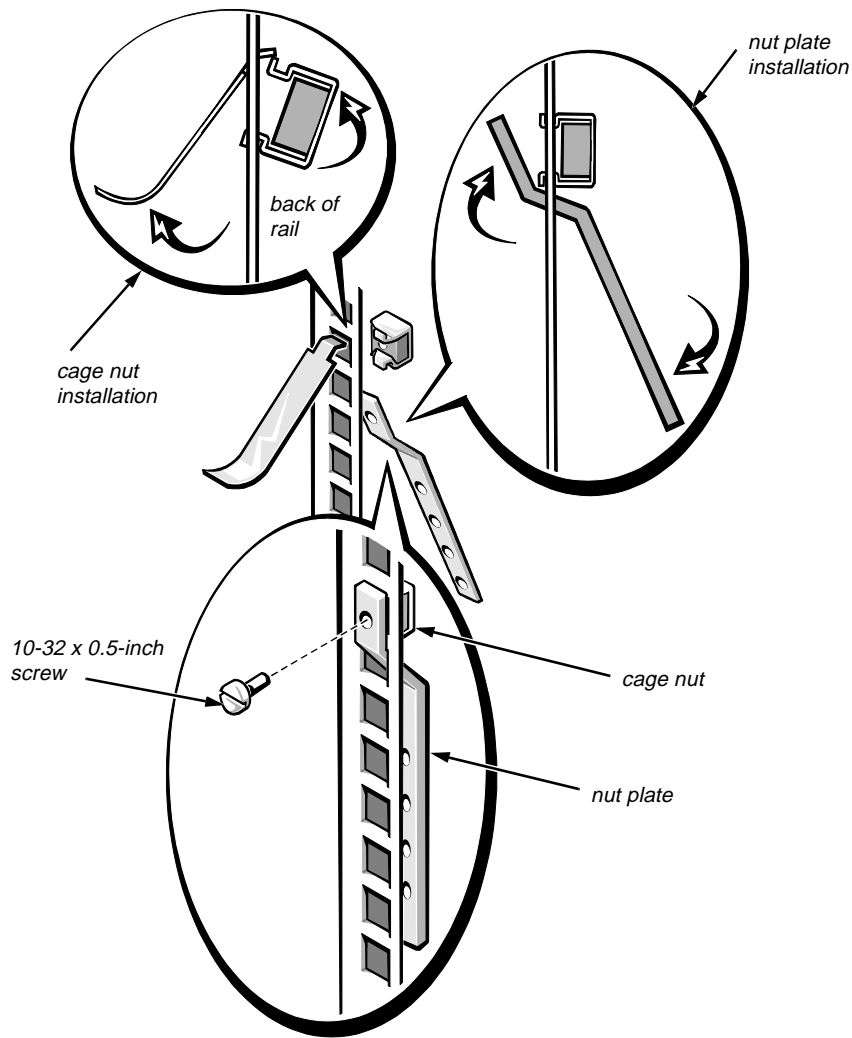

Figure 2-6. Installing the Cage Nuts and Nut Plates
Install the nut plates on the vertical rails where you want the ends of the slide assemblies to be located (see Figure 2-6). Each nut plate is held in place by one 10-32 x 0.5-inch screw and one 10-32 cage nut.
- a. Insert the lower lip of the cage nut over the bottom of the opening in the back of a rail as shown in Figure 2-6. Then insert the small end of the cage-nut installation tool through the opening in the rail (from the front), and hook the tool over the top lip of the cage nut.
- d. To install one of the nut plates, insert it through the hole below the cage nut (from the back of the rail) as shown in Figure 2-6, and then secure the nut plate in place with a 10-32 x 0.5-inch screw.